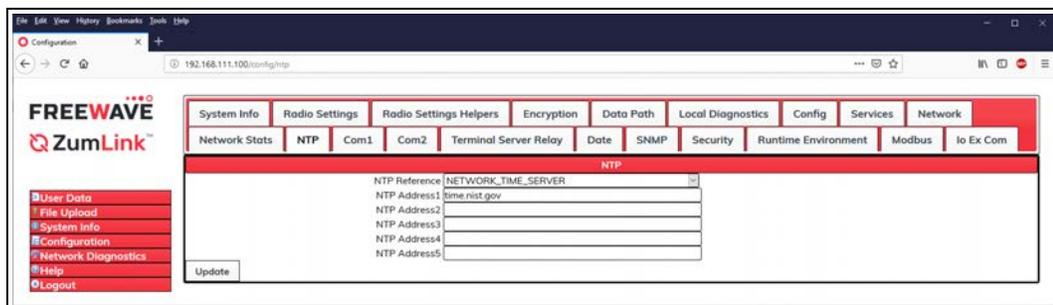

Figure 147: NTP window
6. Click the **NTP** tab to access the **NTP** parameters. Figure 147